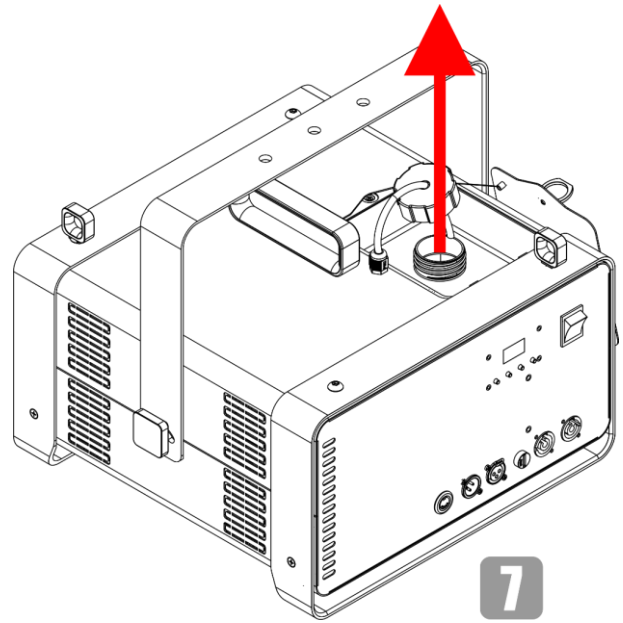

Fig. 26
- 07) Take out the fluid tank, as shown in Fig. 26.